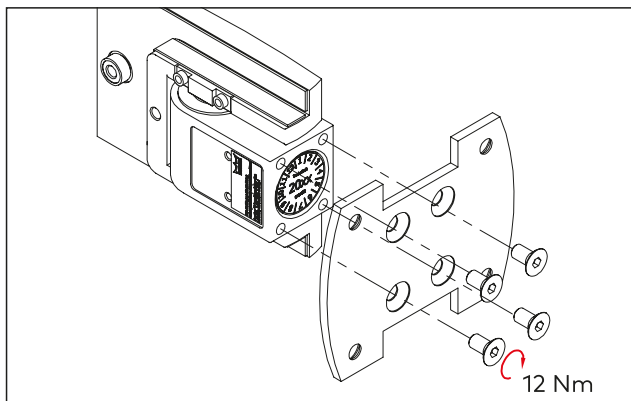

Fig. 49 Attaching the mounting plates to the double action hinge
1. Attach the mounting plate with 4 countersunk screws (M6 x 12) to the TENSOR double action hinge (Fig. 49).